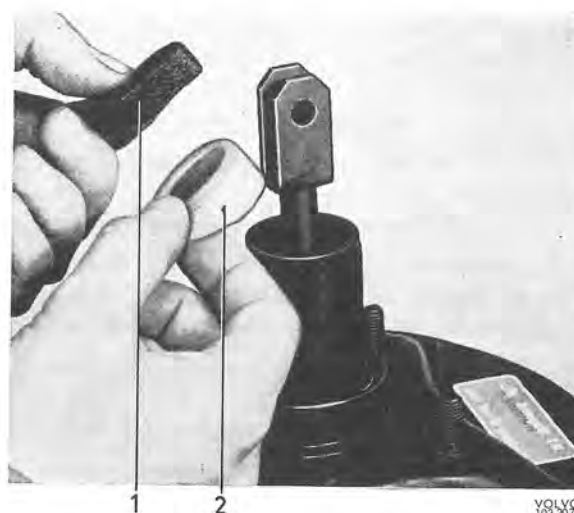

Fig. 5-74. Replacing cleaner and damper
7. Remove the damper (1, Fig. 5-74) and the air cleaner (2).